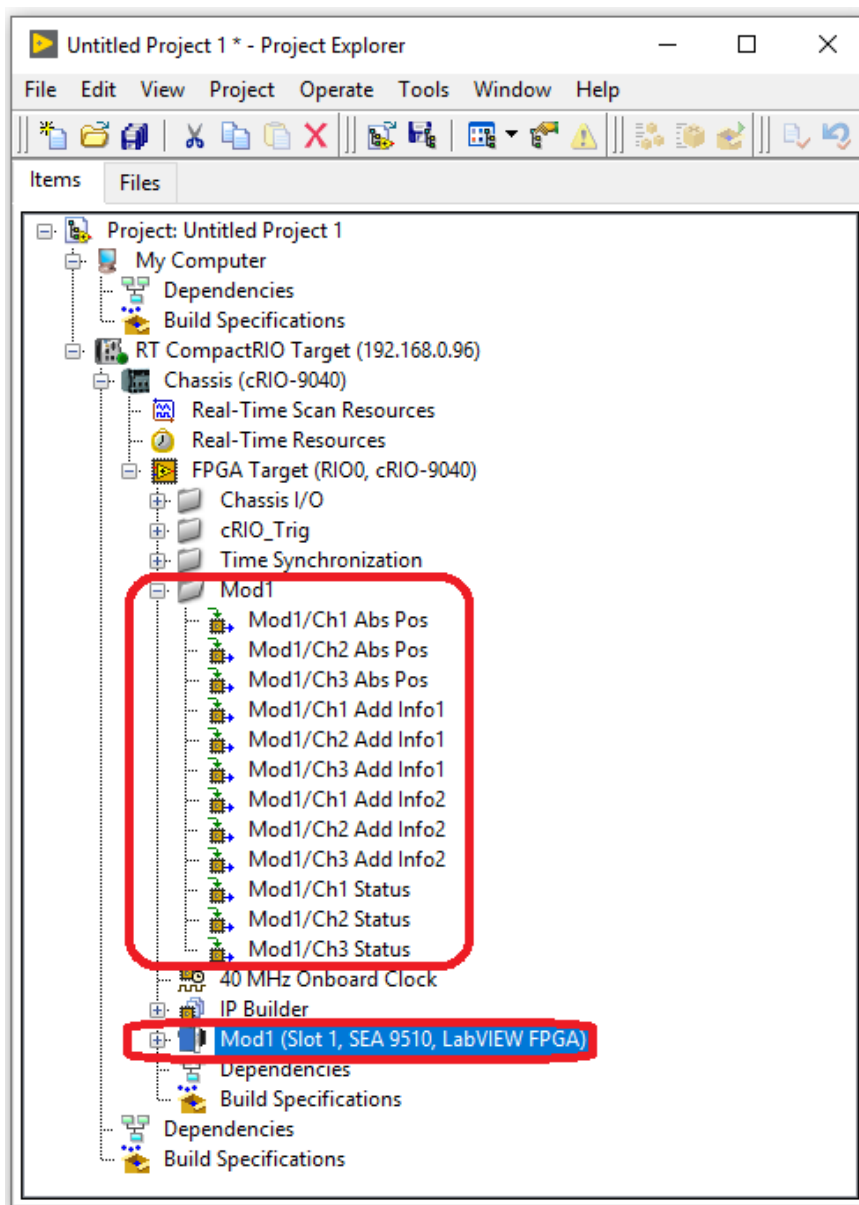

Fig. 3: Quick Start – Project explorer after completing the configuration
10. The configuration is completed. After a successful discovering the project explorer window should look similar to figure 3.